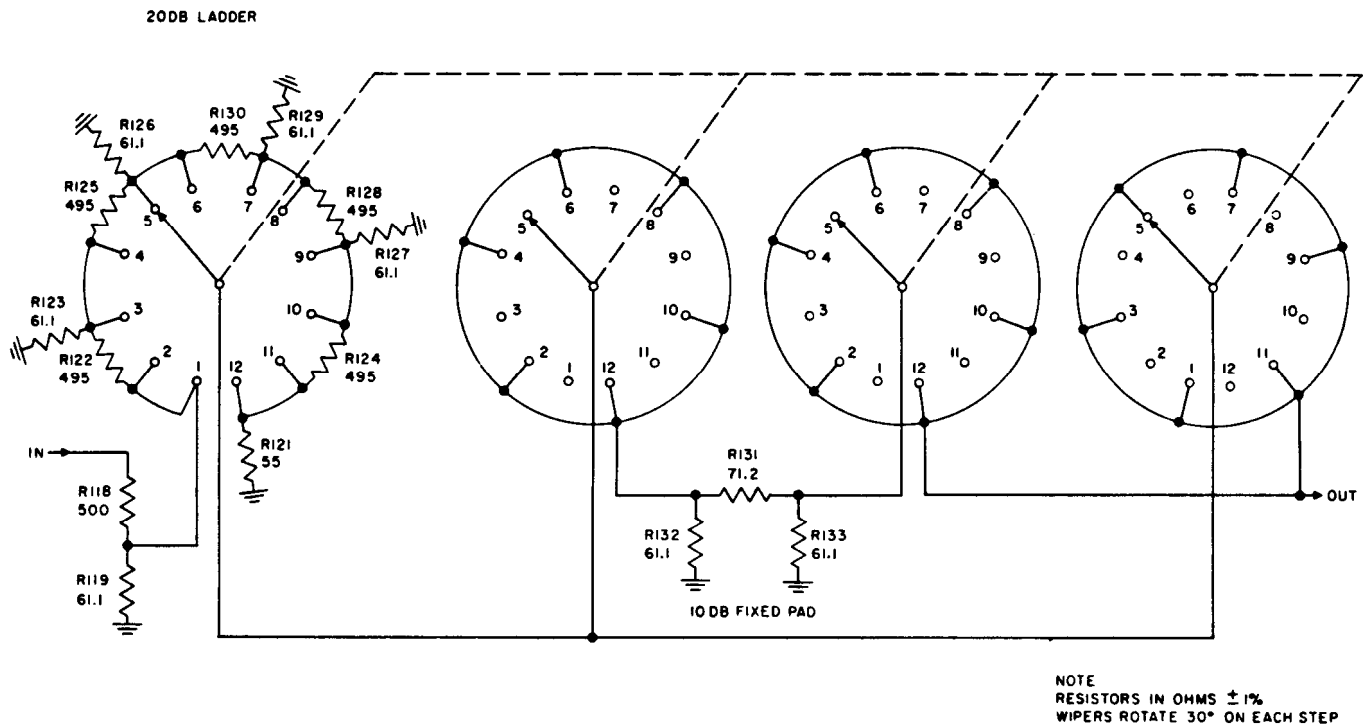

Figure 2-6. RF Output Step Attenuator Simplified Schematic
5. RF OUTPUT. (See figure 2-6.)
f. The switching action of the step attenuator is shown in figure 2-6.